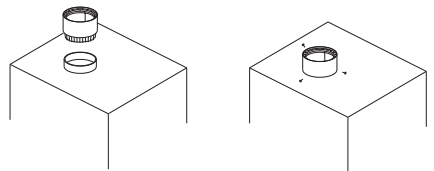

Figure 9
• **Round outlets (Figure 9)**